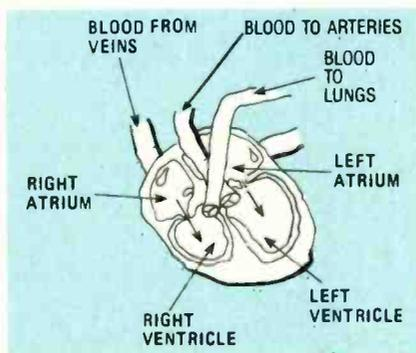

FIG 1—THE FOUR CHAMBERS of the heart. The arrows show the direction of blood flow.
FIG. 1—BECAUSE THEY USE a variety of static-sensitive semiconductor devices, such as this MOS RAM IC, computers are especially prone to damage from static discharges.
The heart is the muscular pump that moves blood throughout the body. As shown in Fig. 1, the heart receives blood from the veins of the body. The blood first goes into the right atrium. The right atrium is the first of the four compartments, or "chambers" of the heart through which the blood will pass. Blood goes from the right atrium to the right ventricle. The tricuspid valve (see Fig. 2)
**Ventricle**—One of the chambers of the heart. The ventricles force blood into the arteries. The right ventricle sends blood to the lungs while the left ventricle sends blood into the body via the aorta. (See Fig. 1 and 2.)